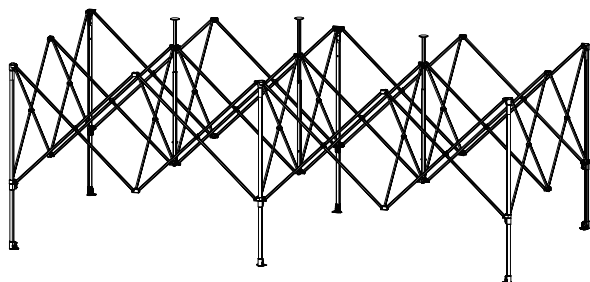

Fig. 1
- With two persons standing at diagonal corners of the structure, grab the leg, and pull out to unfold frame. (Fig. 1)